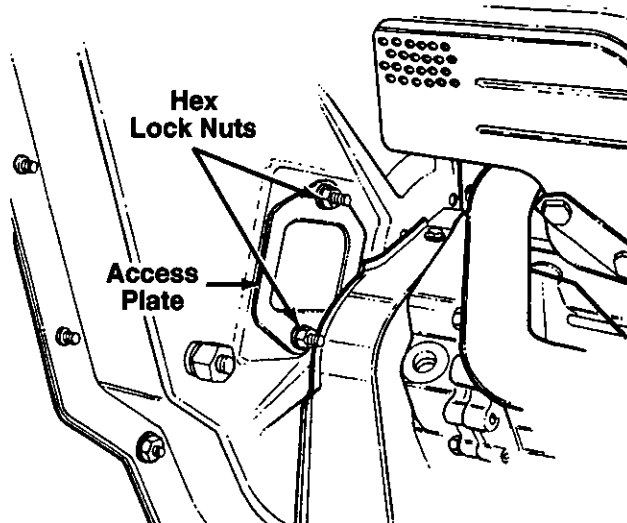

FIGURE 15.
4. Remove the access plate by removing two hex lock nuts. See figure 15.